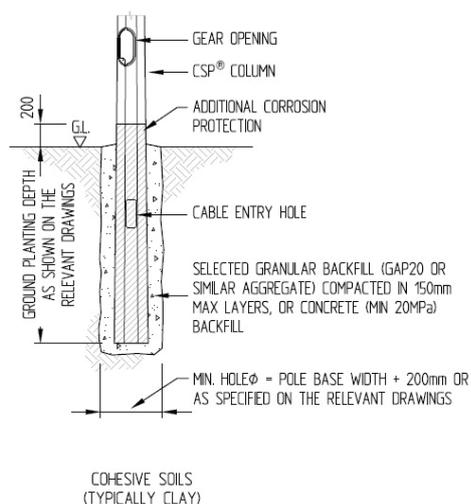

Figure 8a
9.1) Foundations in cohesive soils (typically clay) – Figure 8a
1. The minimum diameter of the planting hole is equal to the across the flats (AF) dimension of the column at the bottom of the planted section plus 200mm, unless specified otherwise on the drawings.
4. Finish the backfill in a conical shape (Figure 8a).